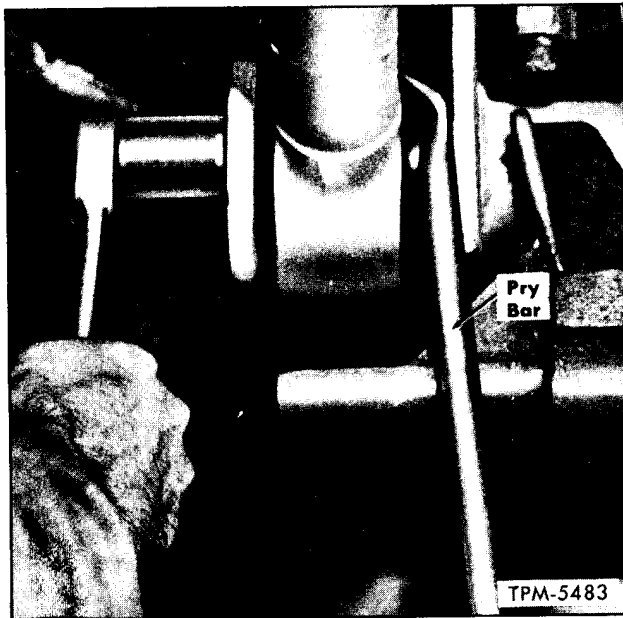

Figure 11—Tightening Radius Rod Cap Screws
3. At axle, use a pry bar to force radius rod end out toward anchor pin washer (fig. 11) while tightening anchor pin cap screws. Do not pinch edge of bushing with pry bar. Secure cap screw with lock wire threaded through head of cap screws.